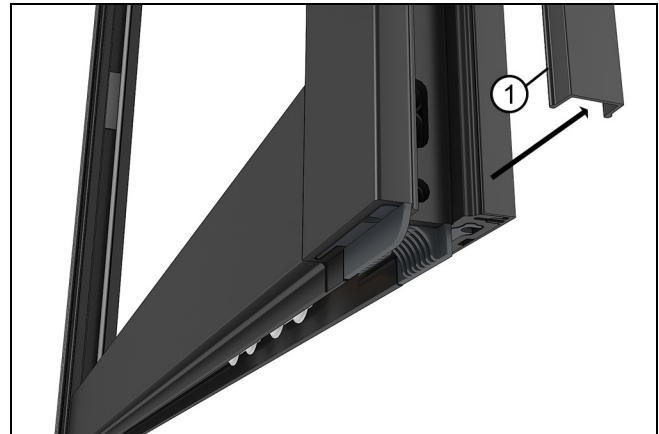

Figure 188
3. Remove the locking stile roller adjustment hole cover. See Figure 188.